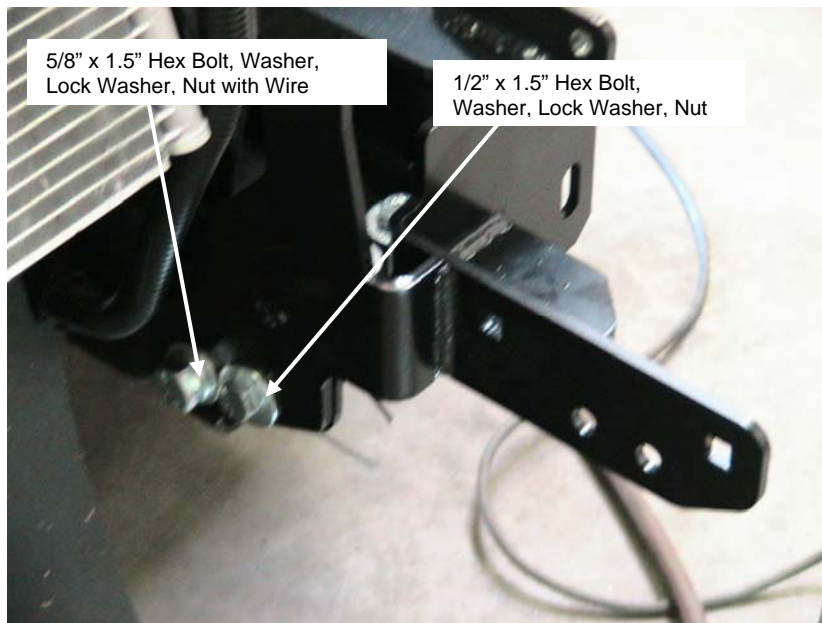

Figure 3. Inboard Bolt Installation. (Driver Side)
4. Install fasteners as shown in Figure A and Figure 3. Do not tighten any fasteners until instructed to do so.